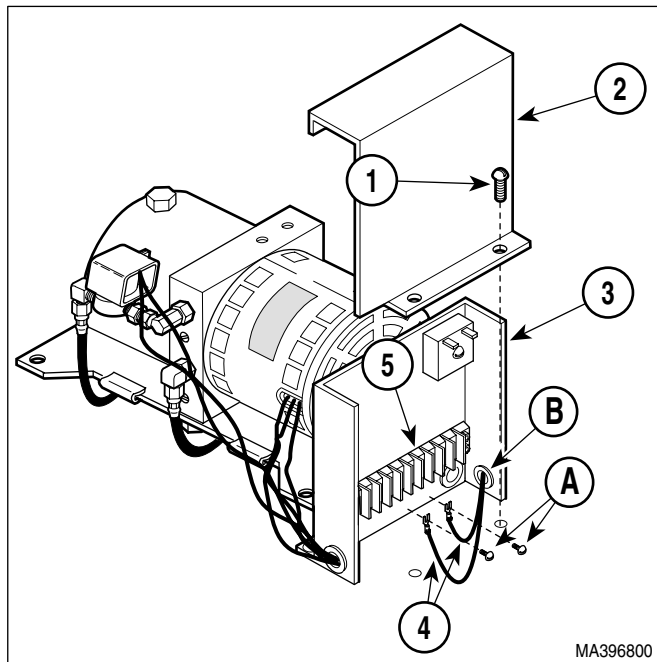

Figure 4-20. Foot Cylinder Wire Disconnection / Connection
- (1) If possible, raise FOOT UP function all the way up.
- (2) Unplug table power cord from outlet.
- (3) Remove motor cover assembly (Refer to para 4.2).
- (4) Remove two screws (1, Figure 4-20) and control cover (2) from control panel (3).
- (5) Loosen two terminal screws (A); then tag and disconnect two foot cylinder wires (4) from terminal block (5).
- (2) Connect hose assembly (7) to foot cylinder (5).
- (3) Connect hose assembly (6) to foot cylinder (5).
- (4) Secure hose assemblies (6 and 7) to foot cylinder (5) with cable ties.
- (5) Secure foot cylinder wire harness (1) to seat weldment (4) with wire clip (3) and screw (2).
- (6) Feed foot cylinder wires (4, Figure 4-20) thru wire hole (B) in control panel (3).
- (7) Connect two foot cylinder wires (4) to terminal block (5) and secure with two terminal screws (A).
- (8) Install control cover (2) on control panel (3) and secure with two screws (1).
- (9) Plug table power cord into outlet.
- (10) Raise FOOT UP function all the way up.